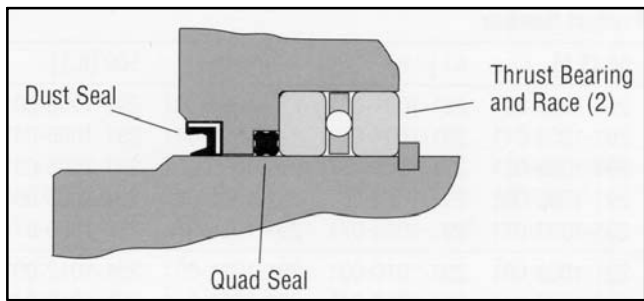

Figure 24
2. Lubricate and install the dust seal (Fig. 24).